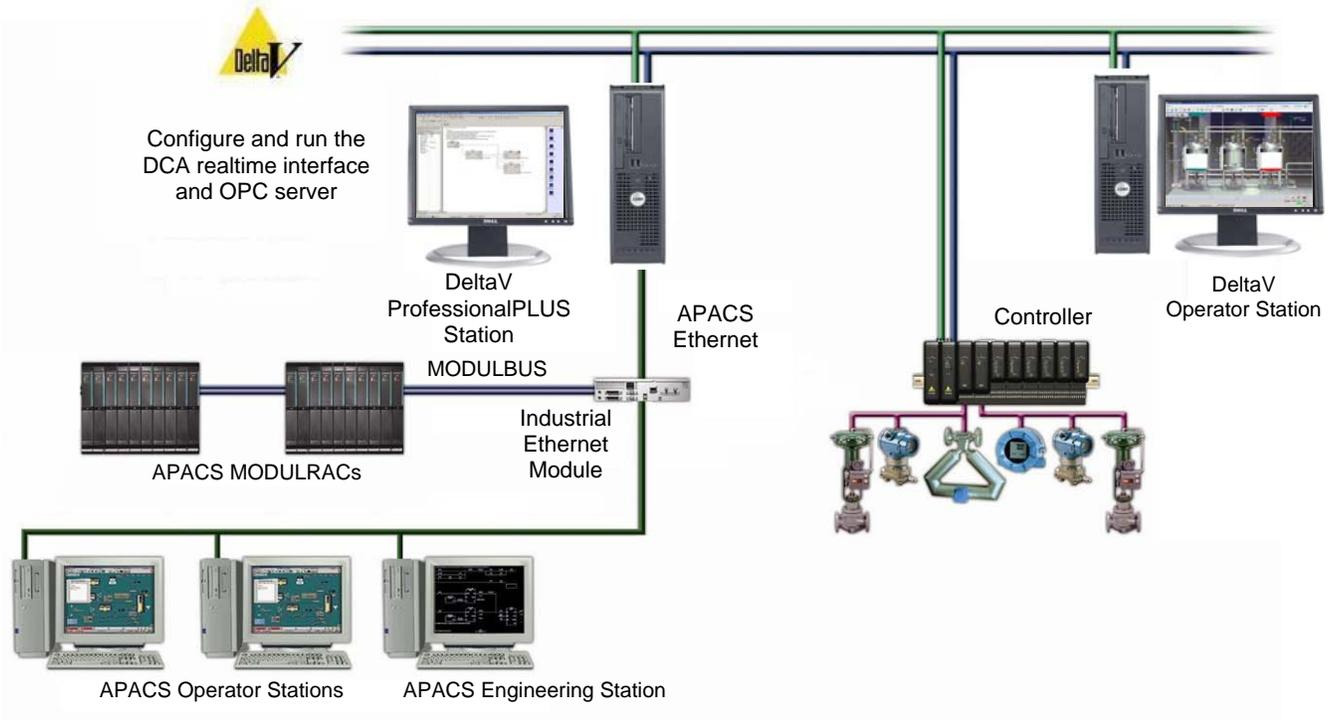

Figure 4. DeltaV Connect™ Solution Small System Schematic
- 3) For small Moore systems, a single DeltaV station can be loaded with both the configuration and realtime interface software. The Modibus connection can be made through the Industrial Ethernet Module or an MBI card. (Figure 4 IEM connection shown):